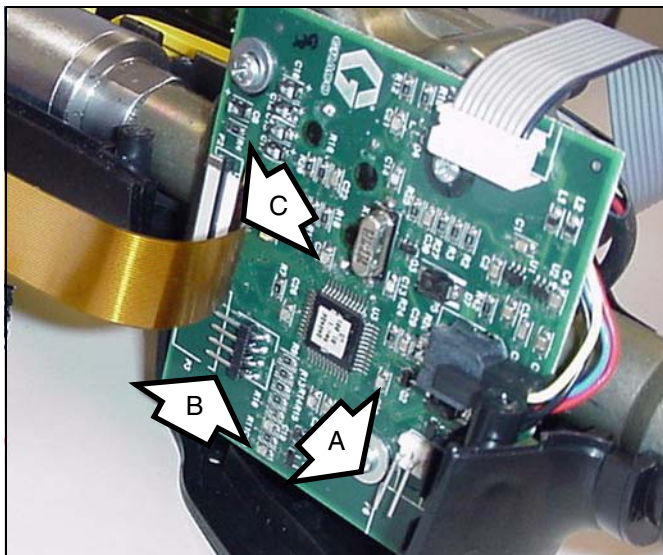
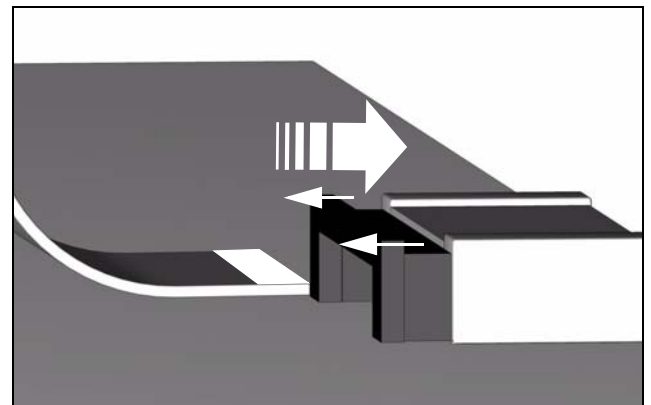

FIG. 27
FIG. 28
- Disconnect the cables/wires (A, B, & C) that connect the bezel (31) to the circuit board (112). Discard the old bezel (31). See FIG. 27 and FIG. 28.
- Reconnect the cables/wires (A, B, & C) from the new bezel (31) to the circuit board (112).
When reconnecting cable C to the circuit board (112), ensure that the cable is positioned with the white tab facing up and that the cable is straight before pushing in (closing) the clasp. See FIG. 28.